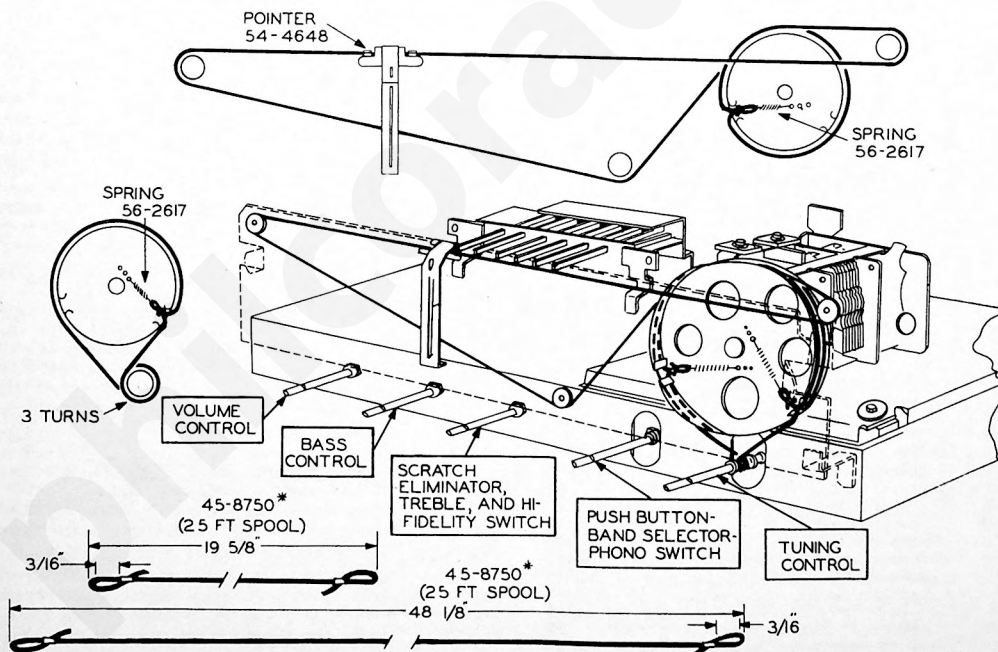

FIGURE 1. DRIVE-CORD INSTALLATION DETAILS
**LOCATIONS OF COILS:** For the locations of coils L400, L401, and L402 (steps 8, 9, and 10), refer to figure 1